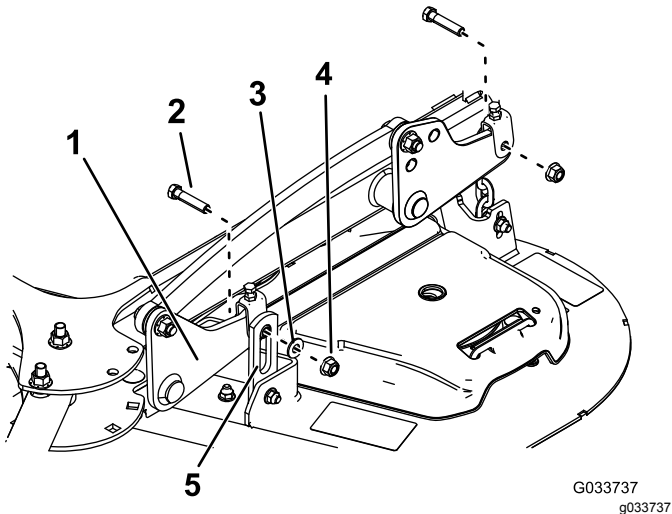
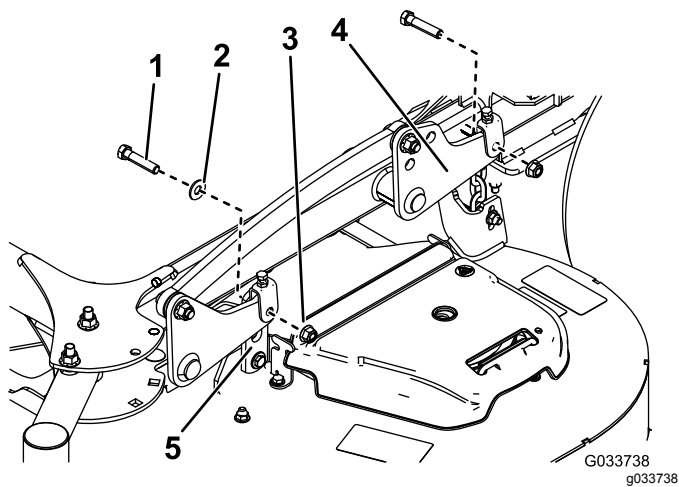

Figure 84
Figure 85
- Remove the 2 bolts, 2 nuts, and washer connecting the mower-deck hangers to the lift plates for both sides of the mower deck (Figure 84 and Figure 85).
Note: Mount the front hanger brackets on the outside of the front lift arms for 52-inch decks (Figure 84). Mount the front hanger brackets on the inside of the front lift arms for 60-inch decks (Figure 85).